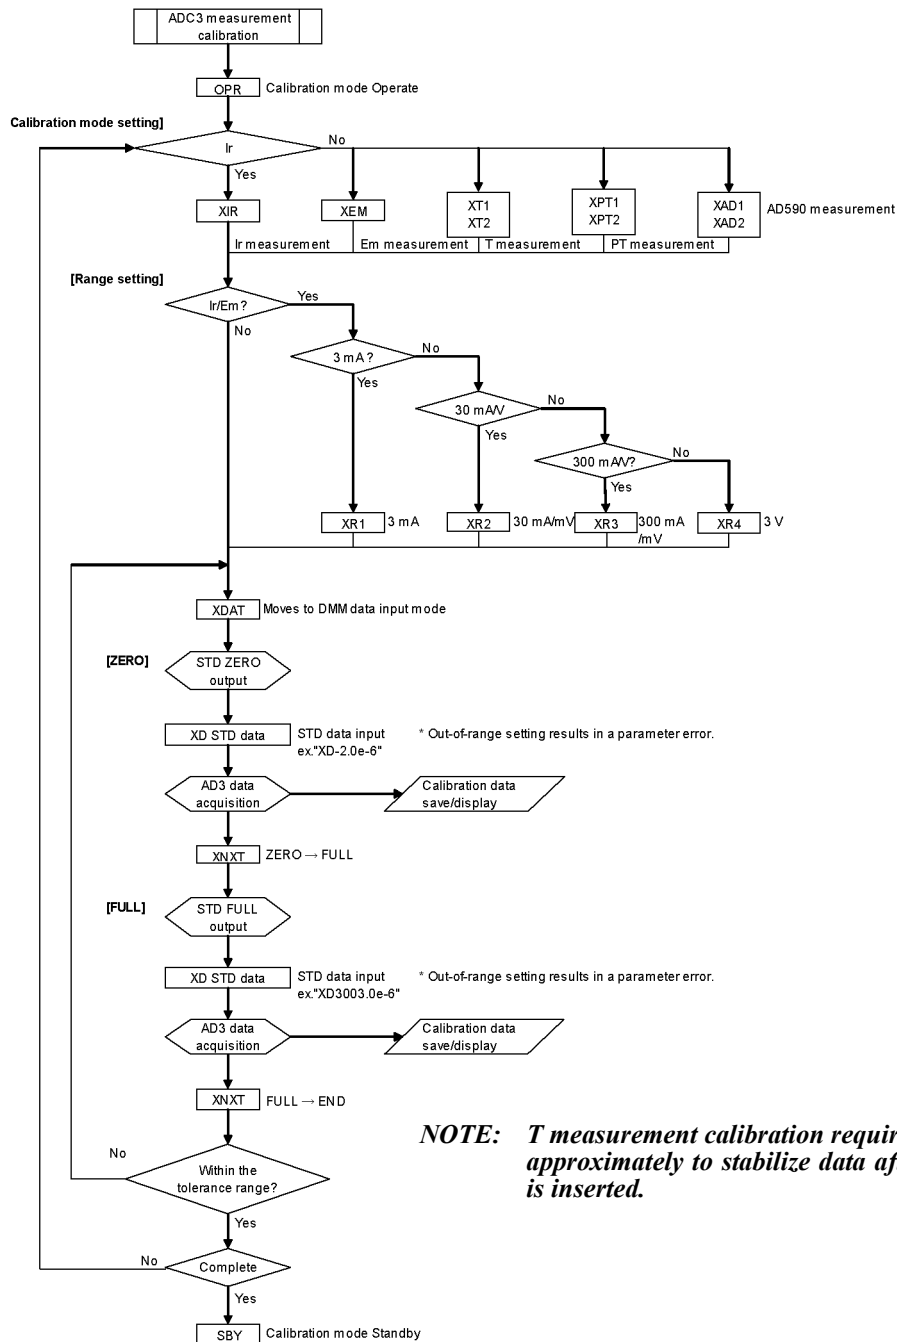

Figure 8-10 Calibration Procedure (6)
The procedure of ADC3 calibration is described according to Figure 8-10 Calibration Procedure (6).